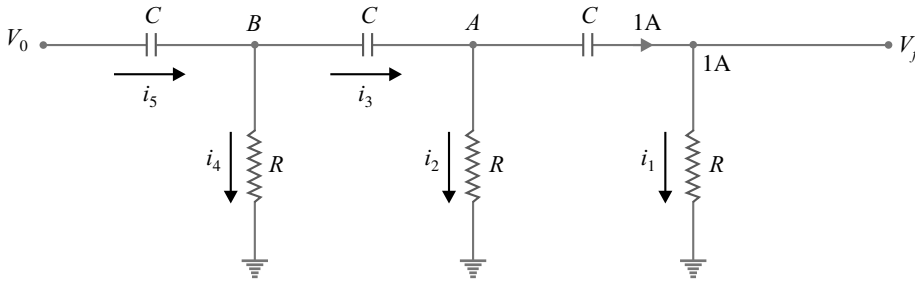

Fig. 12.22
**Solution.** Fig. 12.22 shows the frequency-determining circuit of  $RC$  phase shift oscillator. It consists of three identical  $RC$  sections. The output voltage  $V_0$  of the amplifier is applied to the input of  $RC$  phase shift circuit and reduced feedback voltage  $V_f$  appears across the output terminals of the  $RC$  network. The frequency  $f_0$  at which the phase shift produced by the  $RC$  network is exactly  $180^\circ$  and the feedback fraction  $m_v (= V_f/V_0)$  at this frequency can be found as follows.
Suppose current  $i_1$  through  $R$  in Fig. 12.22 is 1 A i.e.  $i_1 = 1$  A. Then,